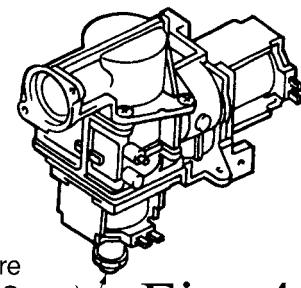

Fig. 4
11) Adjust the regulator screw on the modulating valve as required to the pressure below. (fig 4)